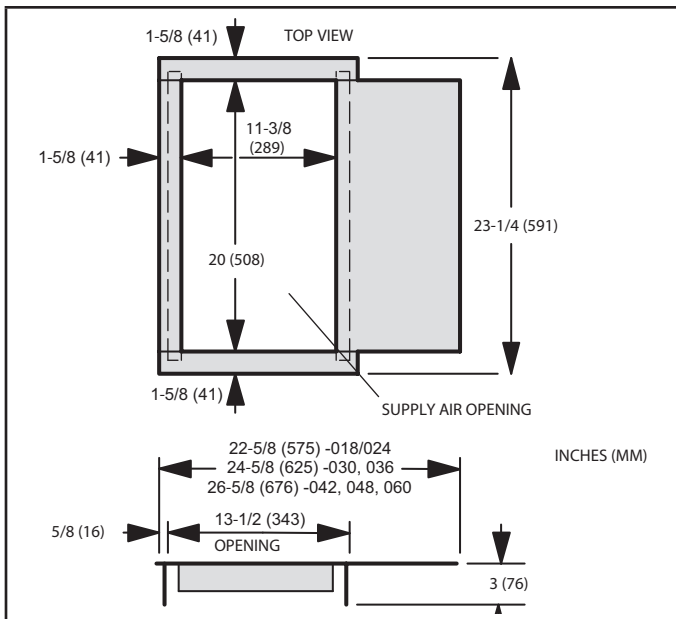

FIGURE 10. Downflow Combustible Base Dimensions
- 9 - Cut an opening appropriately sized for combustibles base. Base dimensions are illustrated in figure 10. After opening has been cut, set the additive base into opening. Connect outlet air plenum to the additive base. Set the unit on the additive base so flanges of the unit drop into the base opening and seal against the insulation strips. The unit is now locked in place. Install return air plenum and secure with sheet metal screws.